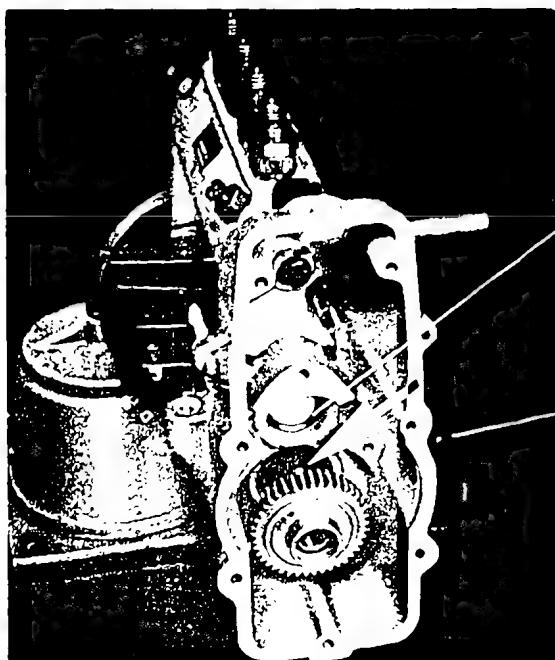

Fig. 47 Fitting the drive gear
Push drive gear onto taper but only so that it just engages with the Woodruff key (Fig. 47). Insert washer (175) into the register for the governor shaft (170) deep-groove ball bearing (171).